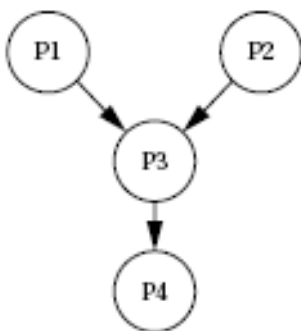

Figure 4.7 Data dependencies among processes.
- Figure 4.7 illustrates the communication required among three elements of an MPEG audio/video decoder.